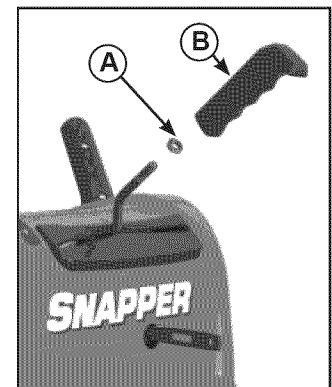

Figure 6. Jam Nut Installation
1. Install thin jam nut (A, Figure 6) onto chute rotator rod. Install chute rotator control handle (B) onto chute rotator rod turning at least 10 full clockwise rotations.
2. Align chute rotator control handle so it is facing forward and use a 9/16" wrench to tighten jam nut (A) against chute rotator control handle (B).